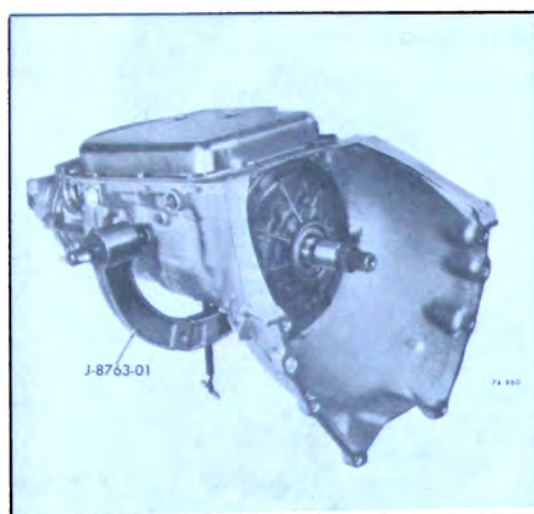

Figure 74-504
3. Install fixture and transmission into Holding Tool Base, J-3289-20, with bottom pan facing up. See Figure 74-504.